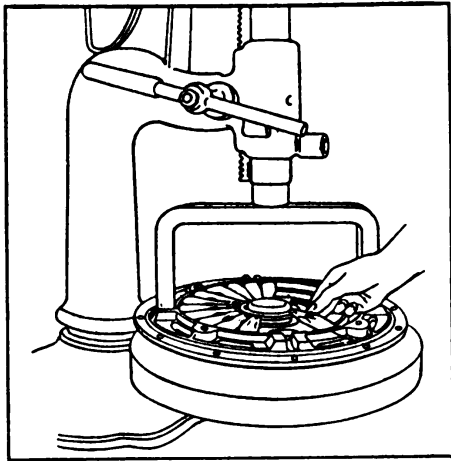

Figure 410
Arrange the 20 levers (124), (If "used" levers, be sure they are straight and not excessively worn) on the fulcrum ring so that the end of the levers nest just inside the retaining rim of the flywheel ring. Figure 410.